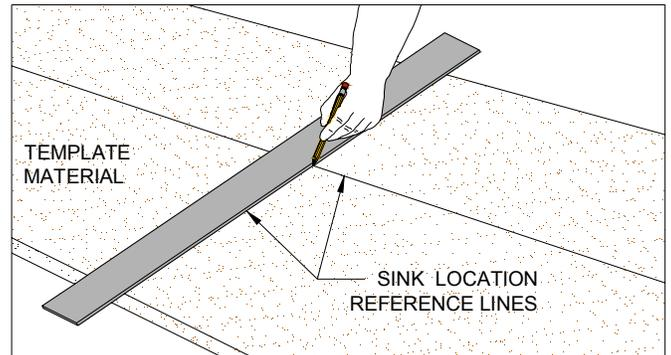

Figure 33A
- Include both vertical & horizontal alignment marks. (FIG. 33A)